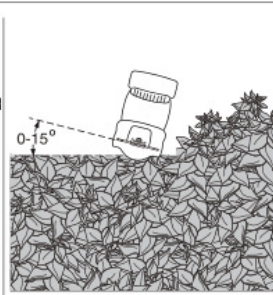

Fig.8
- Start by trimming the top of the hedge. Slightly tilt the tool (up to 15° relative to the line of cut) so that the blade tips point slightly towards the hedge (FIG.8). This will cause the blades to cut more effectively. Hold the tool at the desired angle and move it steadily along the line of cut. The doublesided blade allows you to cut in either direction.